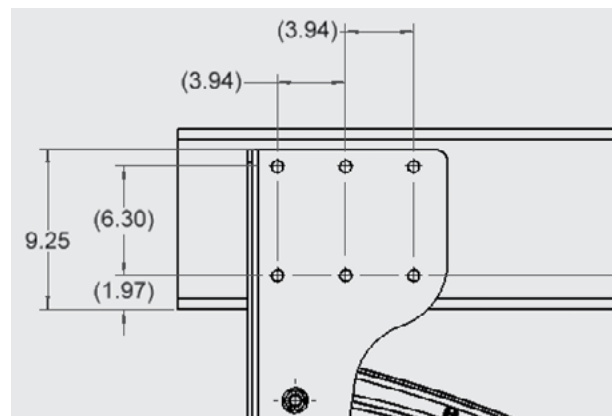

Figure 7. Reference Mounting Bolt Pattern
5. Minimum recommended bolt hole pattern for hanger to frame attachment. Figure 7 shows a reference mounting bolt hole pattern. Use 5/8 - 11 Hex Bolt Grade 8 for frame mounting and torque to 180 ft-lbs. Contact Hendrickson Auxiliary Axle Customer Service with your specific bolt pattern for evaluation of applicability.